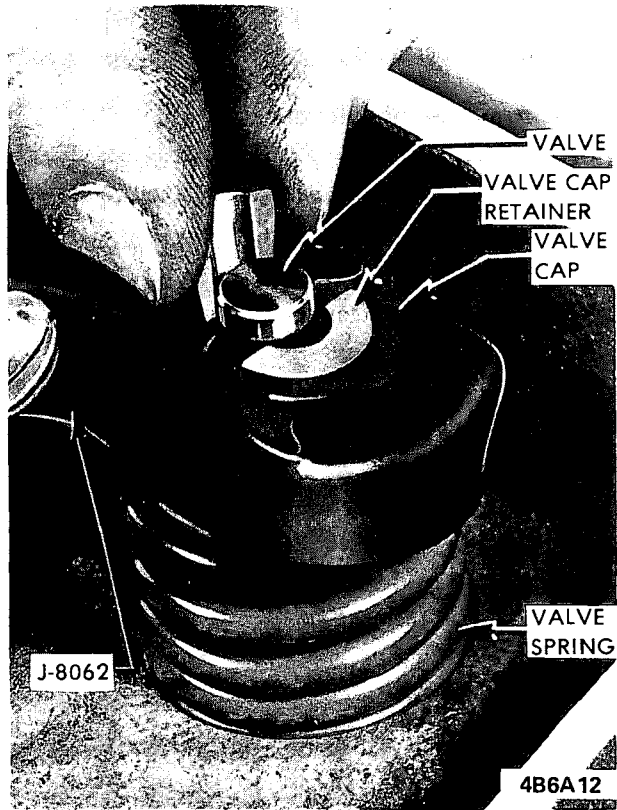

Figure 6A-63 - Removing Valve Cap Retainers.
2. Using suitable spring compressor, such as J-8062, compress valve spring and remove valve spring cap key. Release tool and remove spring and cap. See Figure 6A-63.